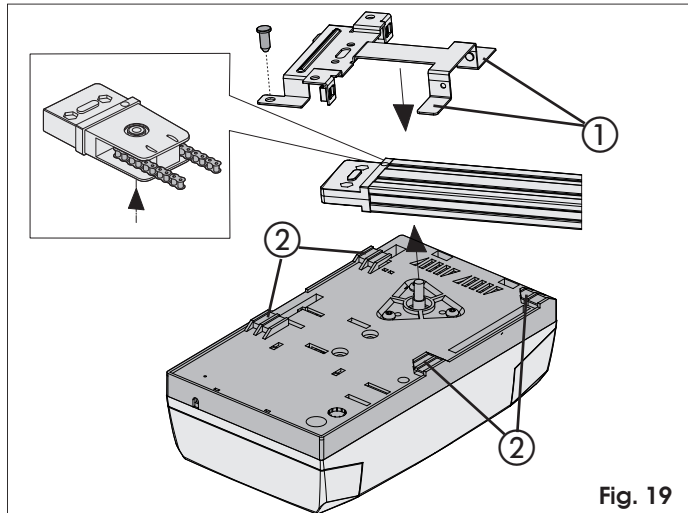
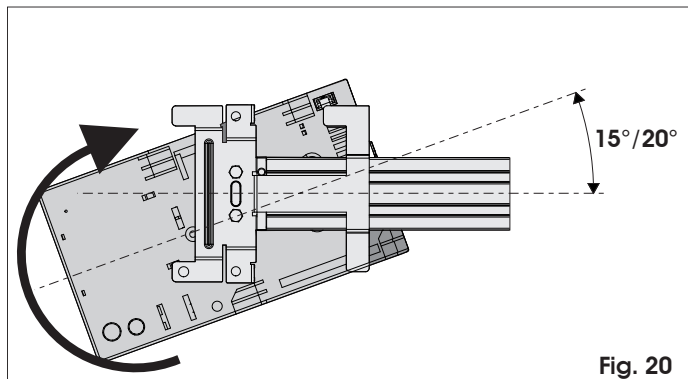
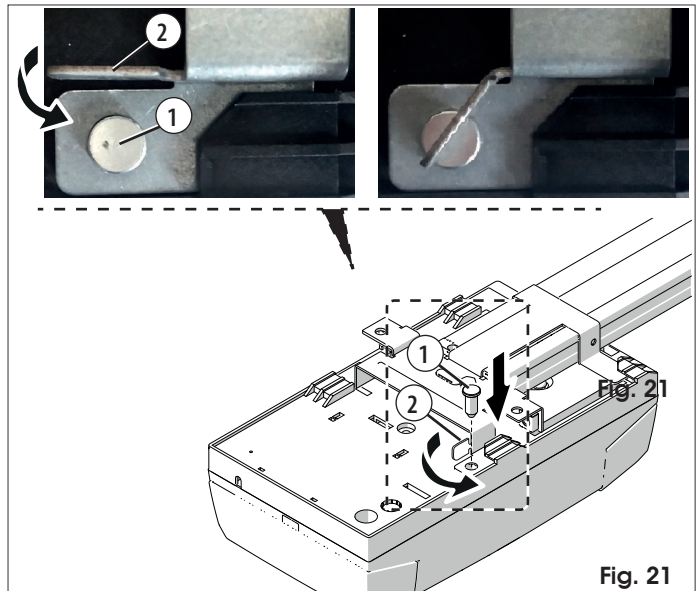

Fig. 19
Fig. 20
Fig. 21
- 1) While keeping the operator inclined at 15/20° (Fig. 20), insert the gearmotor shaft in the coupling on the rear fitting of the sliding guide and make the fins (Fig. 19 ref. ①) near to the seats at the bottom of the operator base (Fig. 19 ref. ②).
- 2) Turn the operator in the direction of Fig. 20 until you reach position of Fig. 21.
- 3) Insert the shear pin (Fig. 21 ref. ①). Bend the mounting lug (ref. ②).